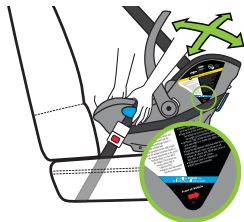

Figure 73
- Grip Carrier near blue LATCH/Lap Belt Guides and pull Carrier side-to-side and front-to-back to check for secure installation, as shown in **Figure 73**.
- Verify that the blue Recline Reference Line on side of seat is parallel with ground, as shown in **Figure 73**. If not, unbuckle the seat belt and go back to **Step 6**.